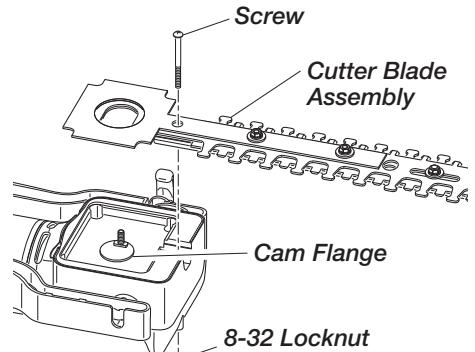

Figure 19 - Removing Cutter Blade Assembly
5. Remove screw that holds down cutter blade assembly (see Figure 19). **IMPORTANT:** Be sure not to lose the 8-32 locknut that secures this screw.
8. Align cutter blade assembly so that the cam will fit properly into the oval-shaped lobes of the cutter blade assembly (see Figure 19). **IMPORTANT:** The large diameter flange of the cam must face upward away from the power head. The small diameter flange of the cam must line up with and sit directly on top of the cam flange.